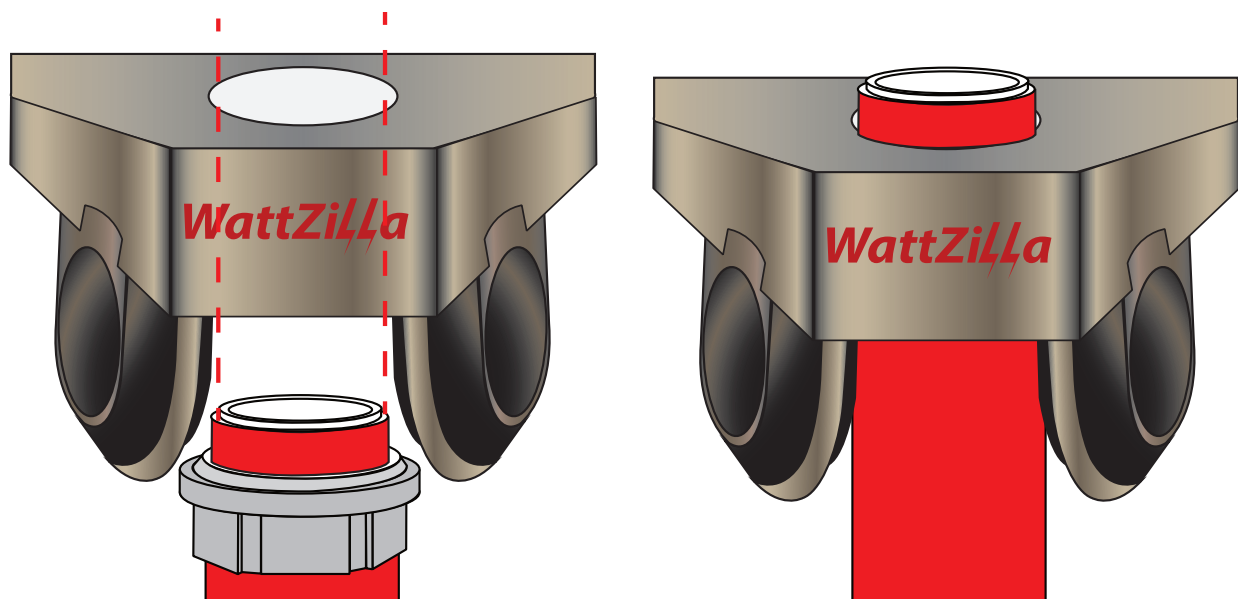

Figure 11. Attaching the DUO Cable Management Assembly Onto the Pole
12. (Optional) Slide the cable management assembly over the pipe and rest it on top of the Myers hub (Figure 11).